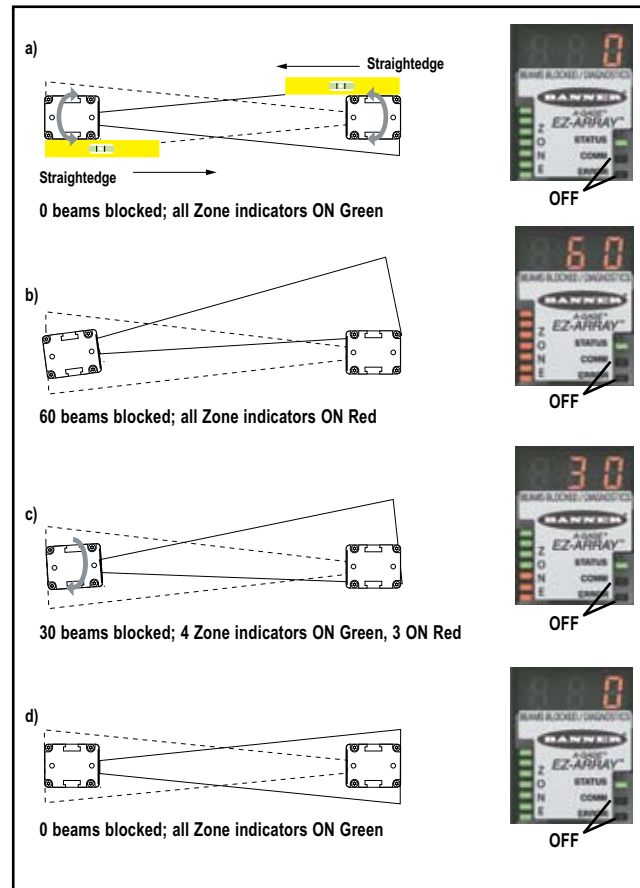

Figure 3-7. Optimizing optical alignment; 300 mm model shown
**Verify that the emitter and receiver are pointed squarely at each other.** A straightedge (e.g., a level) can determine the direction the sensor is facing (see Figure 3-7).